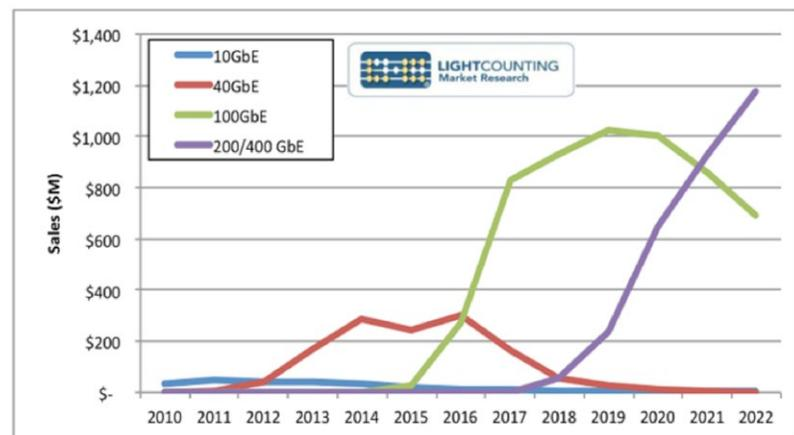

Figure 2. Market share across transportation rates
- Mature information rates being widely deployed (e.g., 100G) and advanced new rates becoming standardized (Figure 2)